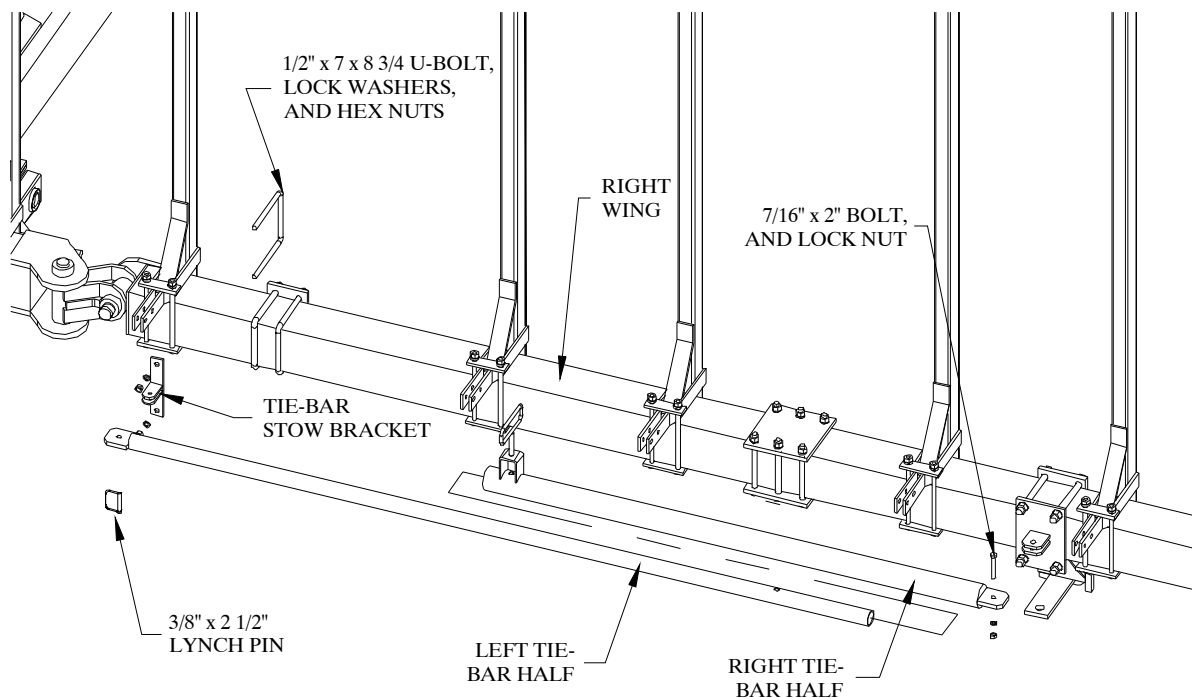

Figure 24
2. Bolt the right tie-bar half to the tab on the back side of the right transport wheel clamp plate. Refer to Figure 24. Use a 7/16" x 2" bolt and lock nut.